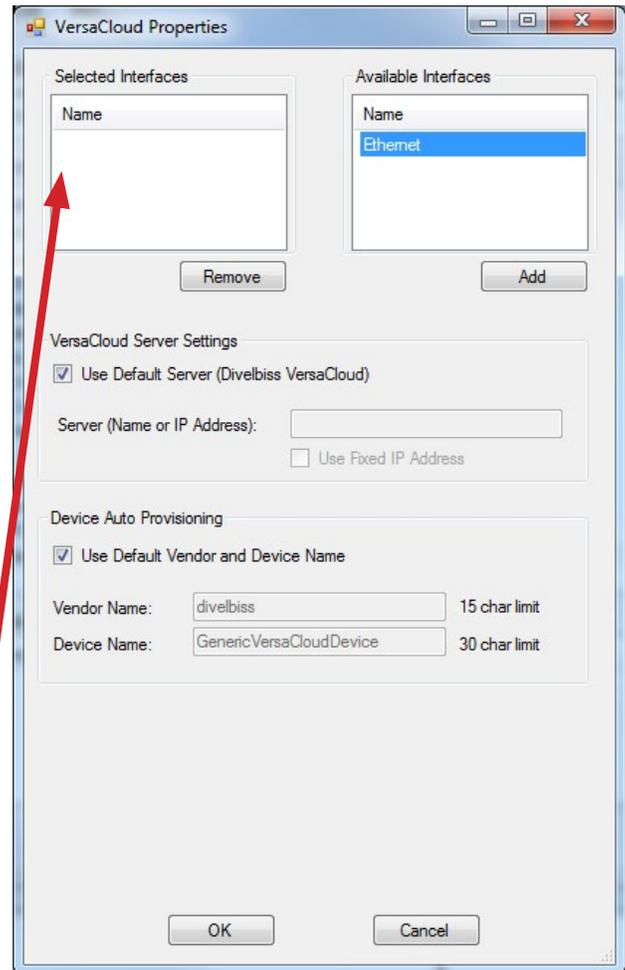

Figure 2-58 - VersaCloud Properties
- Click **OK**. The **VersaCloud Properties** Window will open. Refer to Figure 2-58. This window is used to select the interface (communications method) between the HEC-P6XXX and the VersaCloud M2M Portal (Cloud server). The **Available Interfaces Pane** and the **Selected Interfaces Pane** are used for the selection.